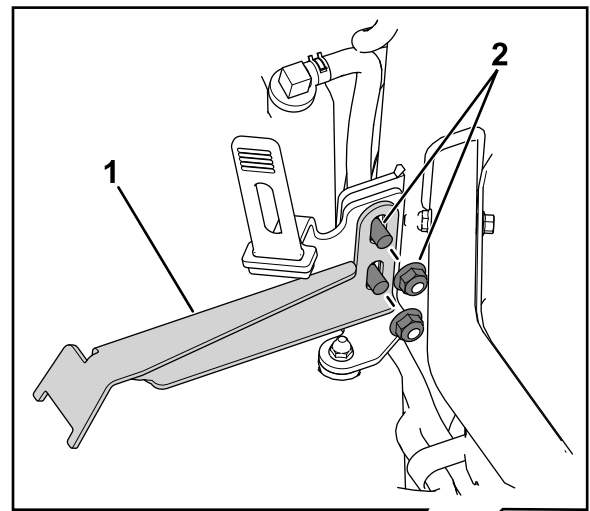

Figure 3
4. Use the existing hood-strap hardware to secure the latch bracket to the hood strap (Figure 3).